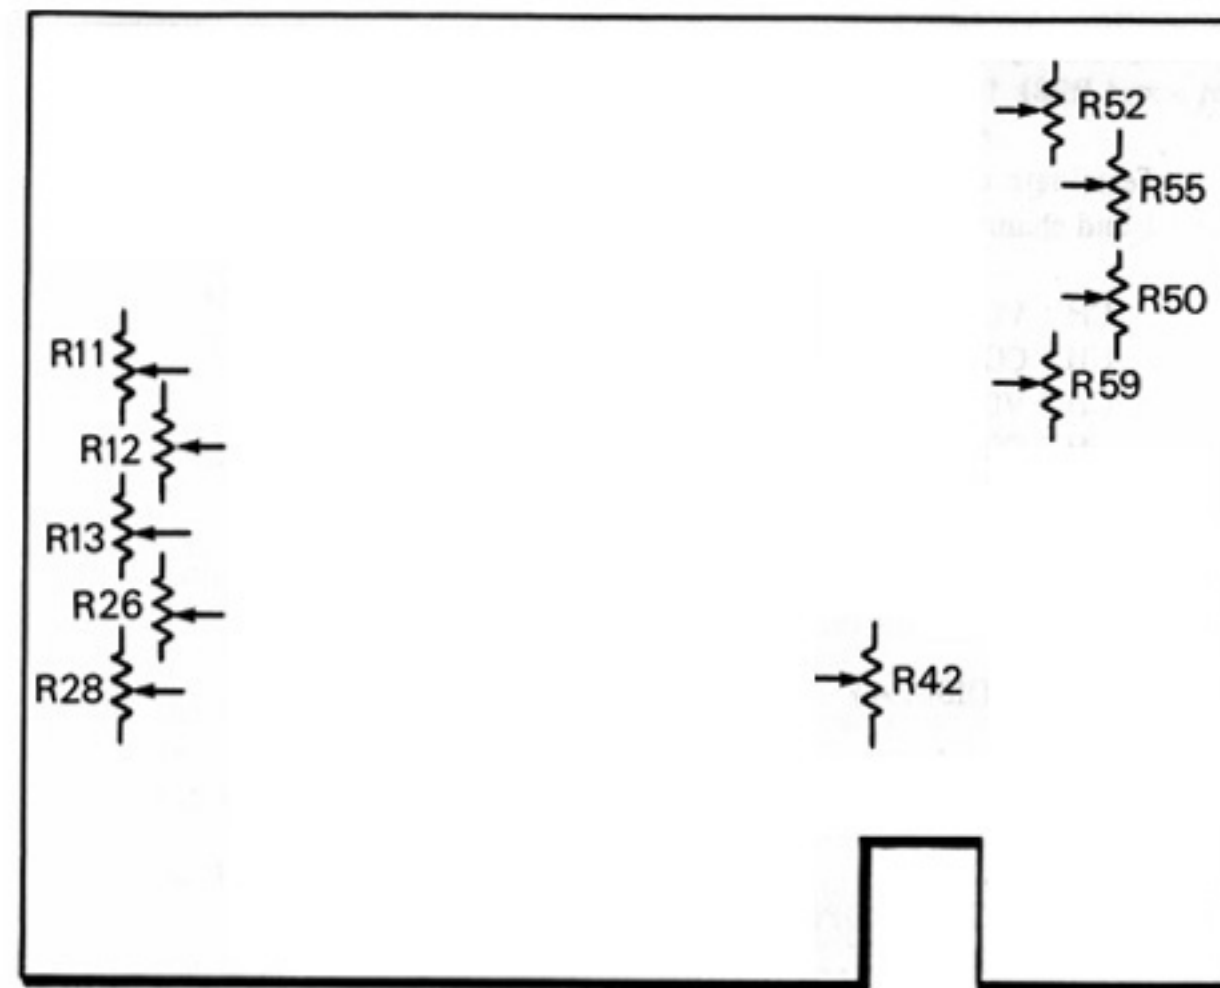

Fig. 18. Trimpot location.
Refer to Fig. 18 for trimpot location and Table 1 for trimpot function.
- Symmetry Adjustments (Refer to Fig. 18 for location of Trimpots R26 and R28).